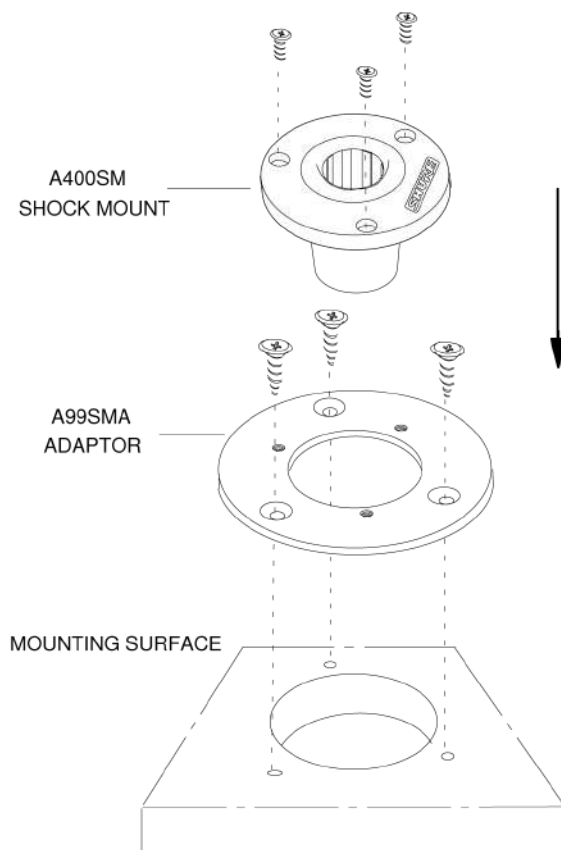

FIGURE 5: MOUNTING THE A400SM USING THE A99SMA
2. Attach the A99SMA Shock Mount Adaptor to surface using existing screw holes and provided screws (Figure 5).
3. Insert A400SM Shock Mount into adaptor, aligning screw holes in shock mount with those in adaptor. Attach using provided screws (Figure 5).